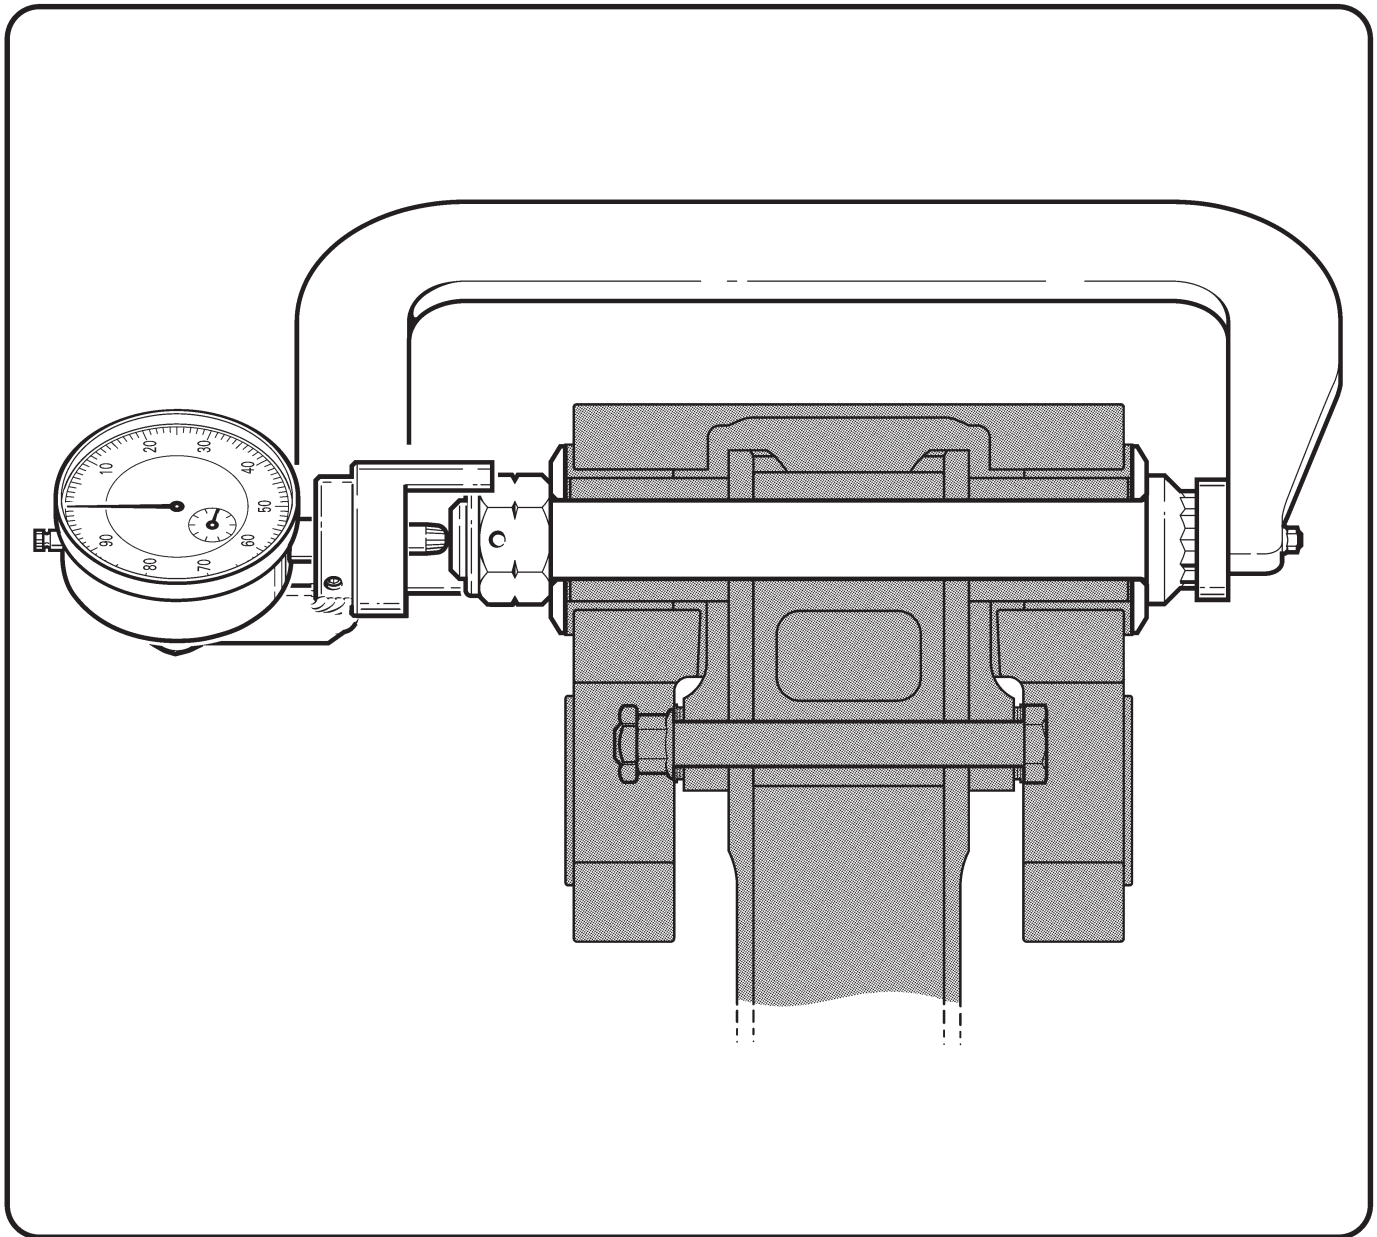

FIGURE 26-2 MEASURING BOLT STRETCH (SHOWN ON TEETER BOLT, BLADES REMOVED)
9. Refer to Figure 26-2. Install MT122 main rotor bolt elongation (stretch) tool on hinge bolt. Zero dial indicator by rotating dial face and lock dial. Remove tool.
5. Refer to Figure 26-2. Install MT122 main rotor bolt elongation (stretch) tool on teeter bolt. Zero dial indicator by rotating dial face and lock dial. Remove tool.